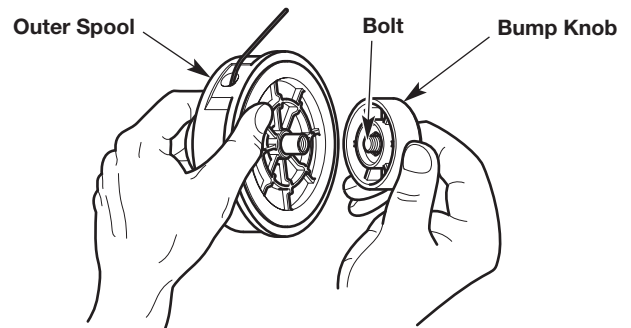

Fig. 18
1. Hold the outer spool with one hand and unscrew the bump knob counterclockwise (Fig. 18).